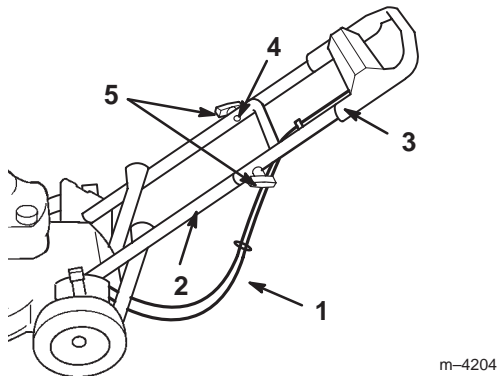

Figure 3
4. Slide the upper handle section ends over the lower handle section so that the sections nest together (Fig. 3).
5. Make sure to route the cables below and behind the lower handle section as illustrated in Figure 3.
6. Secure the upper handle section to the lower handle section using the two contoured handle bolts and two knobs (Fig. 3).